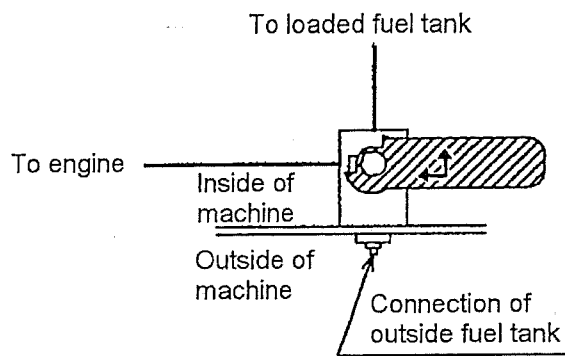
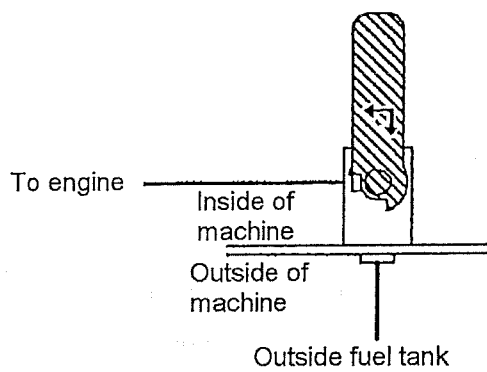

Fig.1 Use of loaded fuel tank
Fig.2 Use of outside fuel tank
(2) Operating procedure
- ① The fuel piping and the change-over valve lever are set as shown in Fig.1 before the machine is shipped. If the fuel is to be supplied from the machine loaded tank, operate the machine with setting left as such.
- ② If the outside machine tank is to be used for fuel supply, remove the two plugs for connection of the outside machine tank and pipe it as illustrated in Fig.2, then turn the change-over valve in the arrow indicated direction before operating the machine.
- ③ If the outside machine tank is not used with the piping removed from it, be sure to return the change-over valve lever to the position as shown in Fig.1 and screw in the two plugs.
(3) Precaution in piping and operation
- ① For the piping, use an oil resistant pipe with an inside diameter of approximately 8 to 10 mm.
- ② Install the outside machine tank as near to the machine as possible and as the fuel level is within from 0 to +3m for the ground.
- ③ In piping the outside machine tank, leave the position of the change-over valve lever as shown in Fig.1 until the piping is complete before turning it to the position as shown in Fig.2 .
- ④ Set the suction pipe 15 to 20mm above the tank bottom to prevent it from drawing in water and/or foreign matter present in the tank. (See Section A in Fig.2 .)
- ⑤ Take good care to avoid entry of water and or foreign matter into outside machine tank.